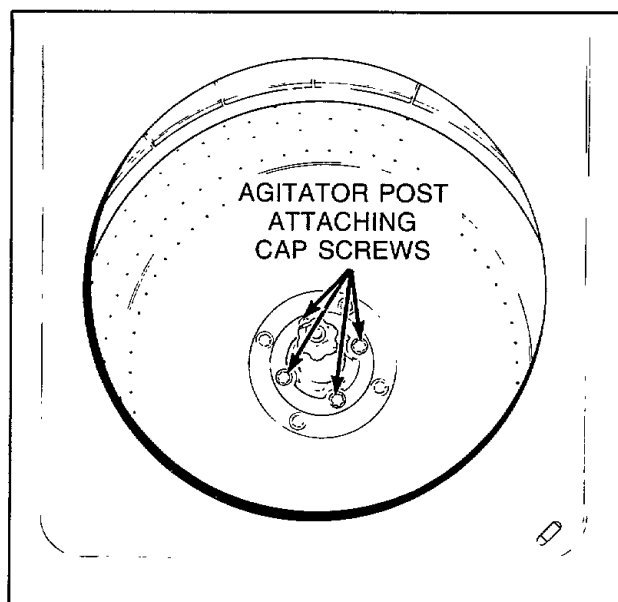

Figure 11
- b. Remove four cap screws holding agitator post assembly to washtub hub, *Figure 11*, then lift assembly out of washtub.